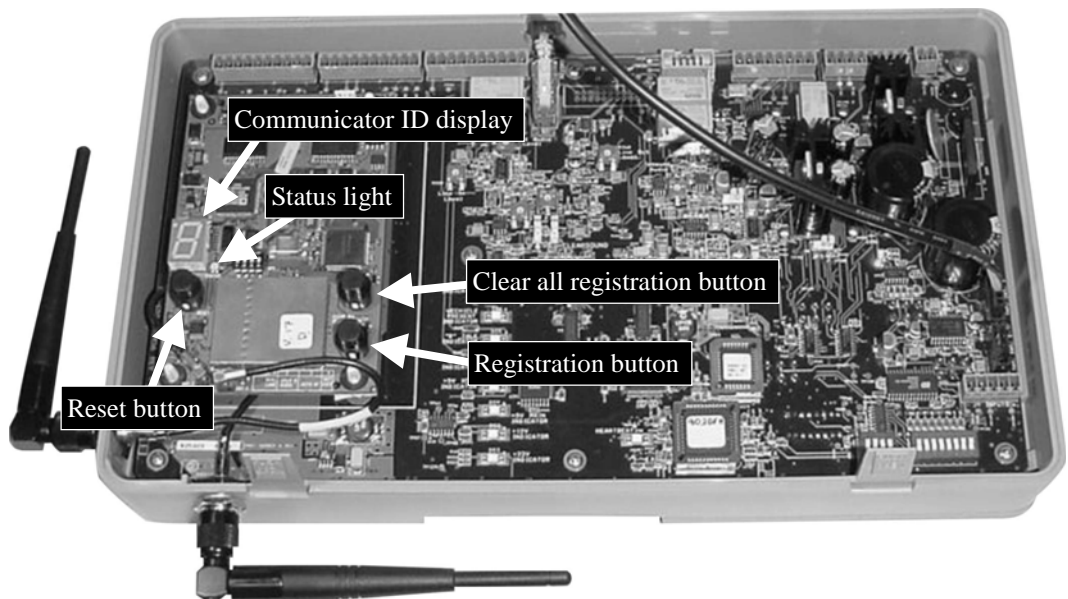

Figure 5. Registration buttons and indicators
A maximum of 15 Communicators can be registered. If one is replaced, you must register the new one before you use it. When a Communicator is replaced, the old one remains in memory. If the maximum number of 15 is exceeded, you must clear all current registrations and re-register all active Communicators. To clear all current registrations, press the “Clear All Registration” button and the “Reset” button at the same time. Refer to Figure 5 on page 6. Continue holding the “Clear All Registration” button after releasing the “Reset” button, until the clear code “c” (lower case) appears on the Communicator ID display. Register all active Communicators the same way, one at a time.
- Open the base station and locate the items shown in Figure 5.